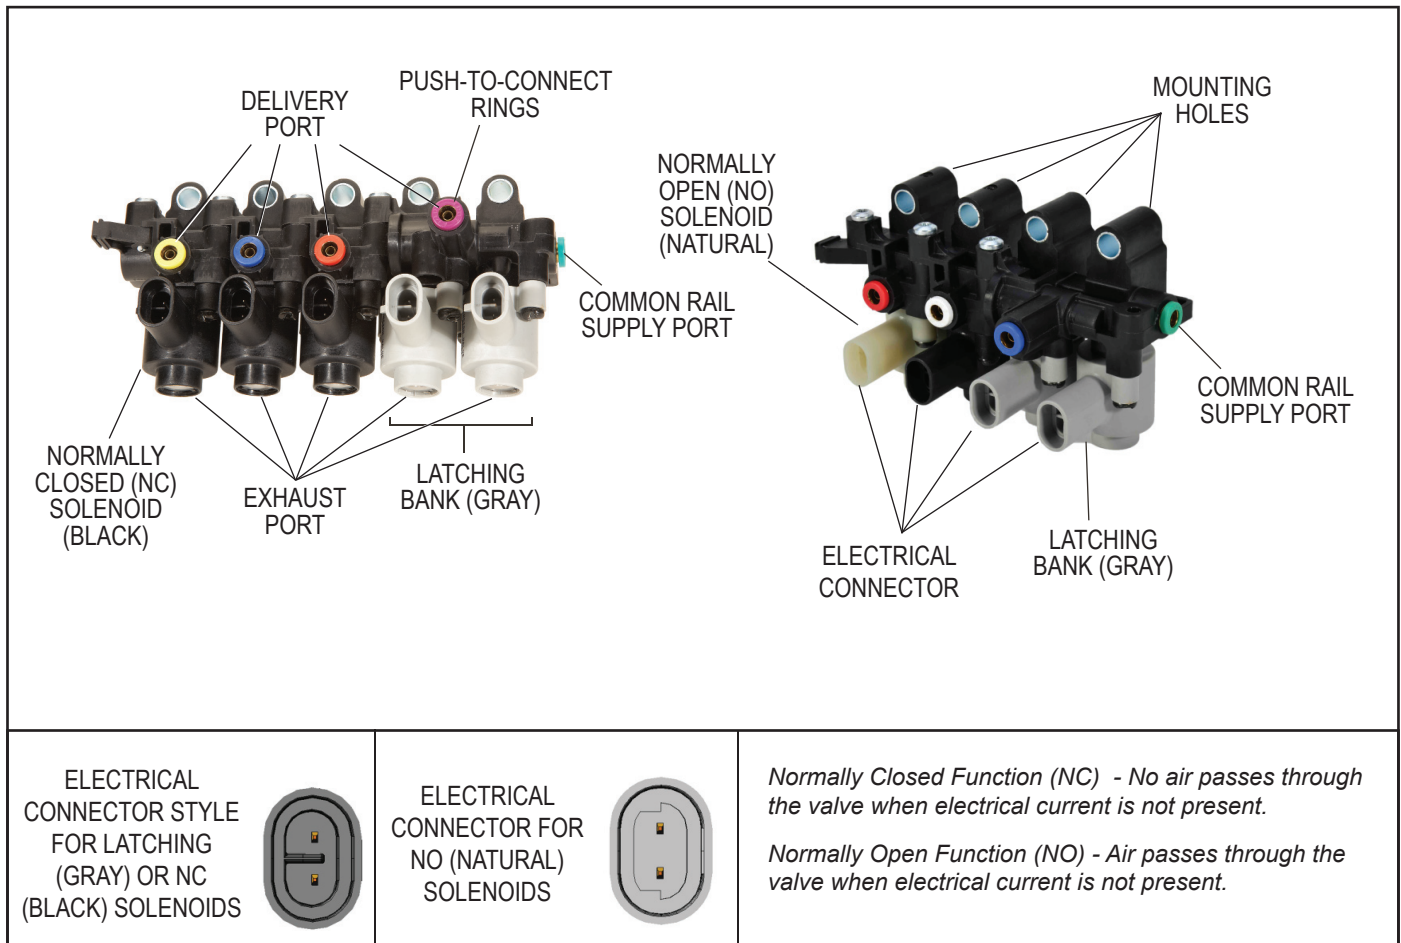

FIGURE 1 - BENDIX® SMS-9700™ ACCESSORY SOLENOID MANIFOLD
The SMS-9700 accessory solenoid manifold is a stackable assembly with up to five normally open (NO), normally closed (NC), or latching solenoid banks that can control various accessories. These banks can be identified by the electrical connector type and/or color (black, gray or natural), and delivery port pairings. See Figure 1.